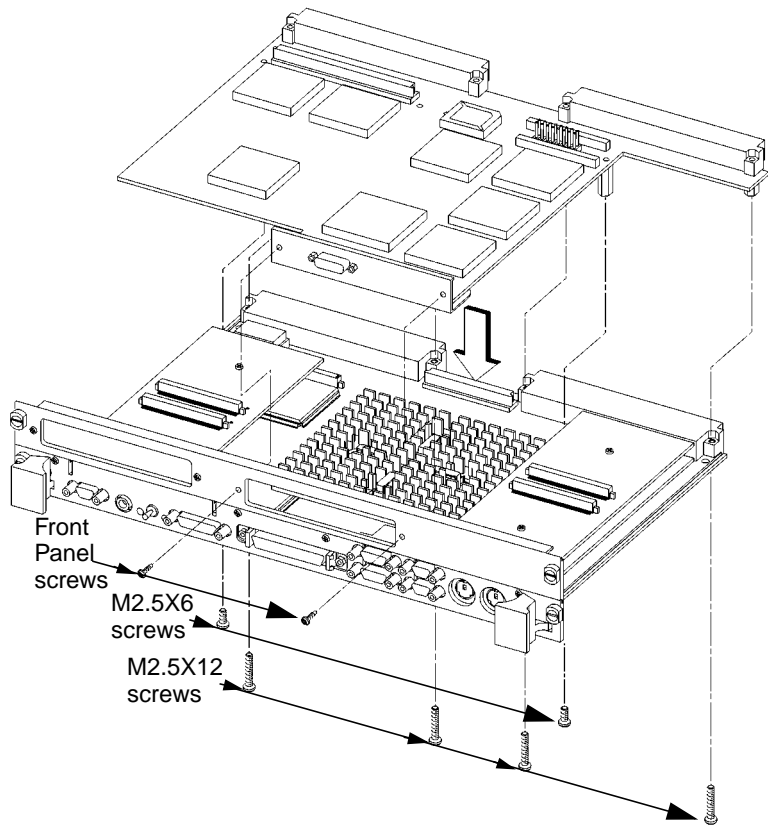

Figure 2-5
- 1 Place the HCRX board on the board computer, lining up the screw holes for the M2.5x12 and M2.5x6 screws as shown in Figure 2-5.